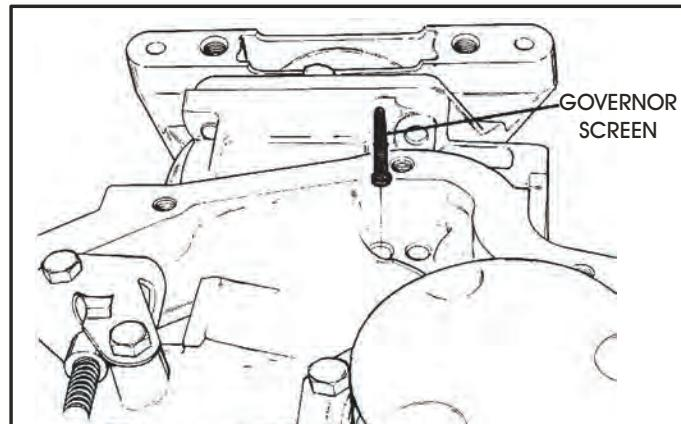

Figure 123
48. Install a new governor screen into the case in the position and location shown in Figure 123.